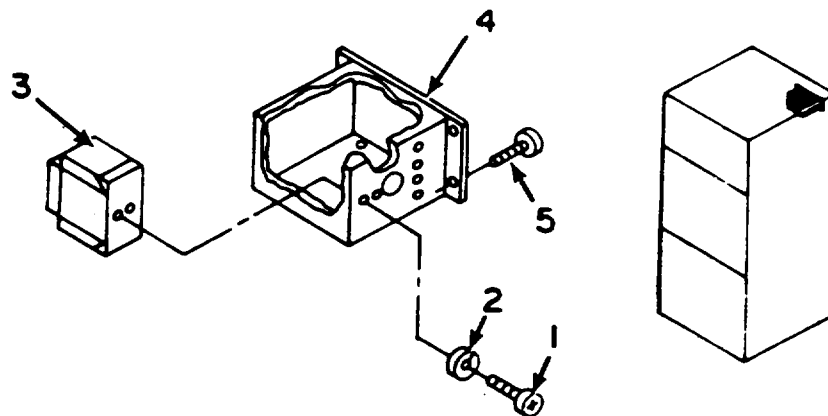

Figure 5-22. Pressure Switch.
- a. INSPECTION. See Figure 5-22.